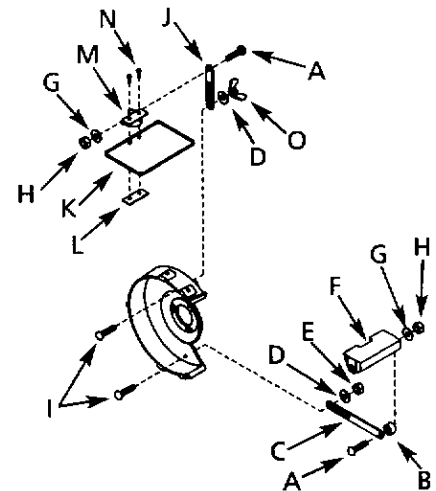

Figure 1 - Left Tool Rest and Eyeshield Assembly
Parts to be fastened to the unit should be located and accounted for (See list and Figure 1).
Refer to Figure 1.
Slide 5/16-18 x 1½" carriage bolt (A) into square hole in tool rest bracket (C). Slide spacer (B) onto carriage bolt. Slide carriage bolt with spacer and bracket into hole on inside of tool rest (F) as shown in Figure 1. Slide 5/16" flat washer (G) and 5/16"-18 hex nut (H) onto carriage bolt. Tighten nut finger tight.